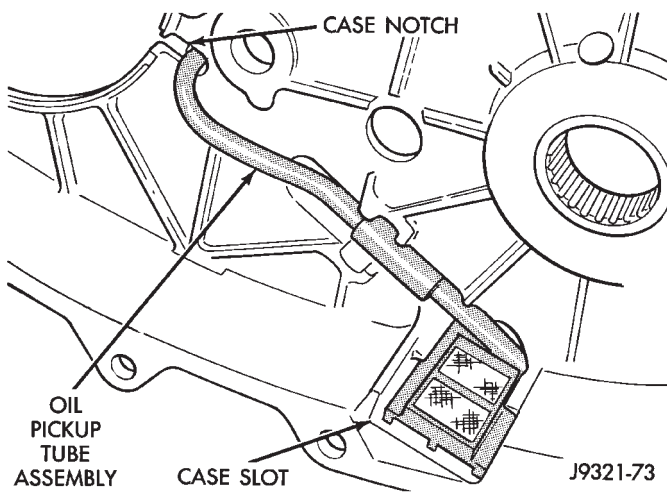

Fig. 84 Oil Pickup Tube Installation
(1) Clean sealing flanges of front case and rear case with a wax and grease remover.
(2) Install new O-ring on flanged end of oil pickup tube.
(3) Install oil pickup tube in rear case. Be sure tube is seated in case notch as shown (Fig. 84).